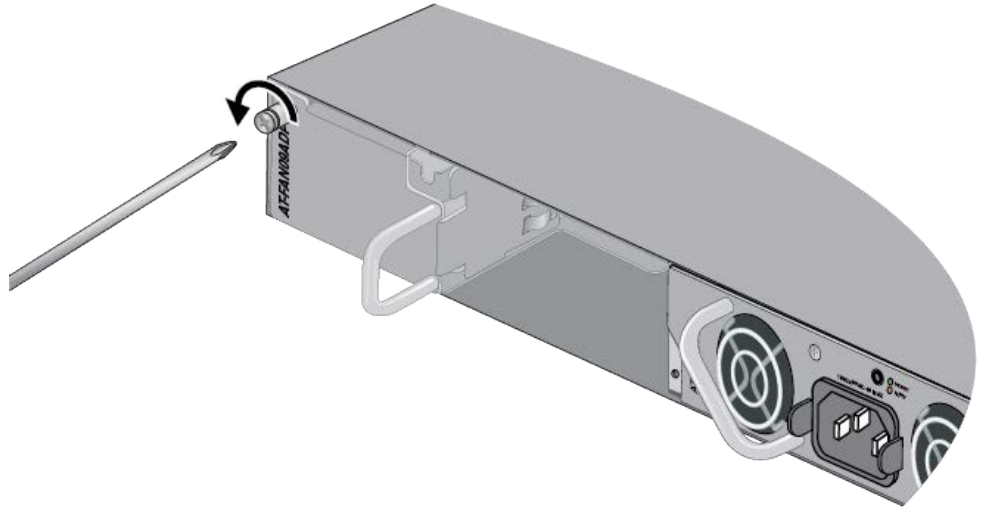

Figure 32. Loosening the Captive Screw on the AT-FAN09ADP Module
5. Use a cross-head screwdriver to loosen the captive screw on the AT-FAN09ADP Module. Refer to Figure 32.